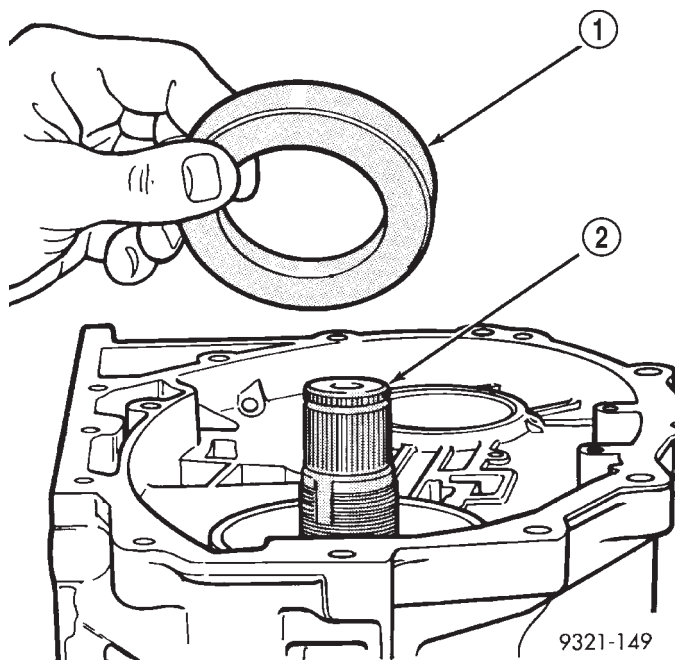

Fig. 417 Rear Transfer Bearing Cup
(39) Install rear transfer shaft cup into case (Fig. 417).